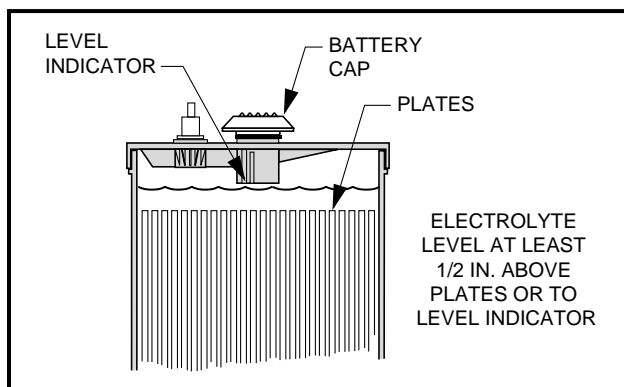

Figure 12 Electrolyte Level in Batteries
- The electrolyte level in the batteries should be checked weekly (**See Figure 12, Page 19, for proper level**). Add water only after charging unless the water level is below the top of the plates. In this case, add just enough water to cover the plates, charge and then check the level again. Never charge batteries if plates are exposed above water level. For best battery life, add only distilled water. **See following NOTE.**